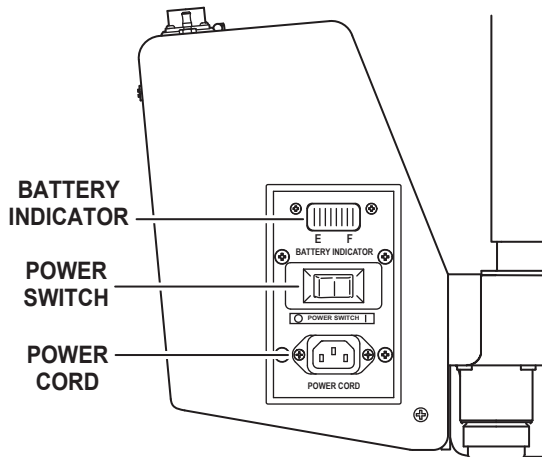

Figure 8. Electrical Panel on the Back Pack
- The main power On/Off switch (Main Power Switch) is located on the side of the back pack (Figure 8).